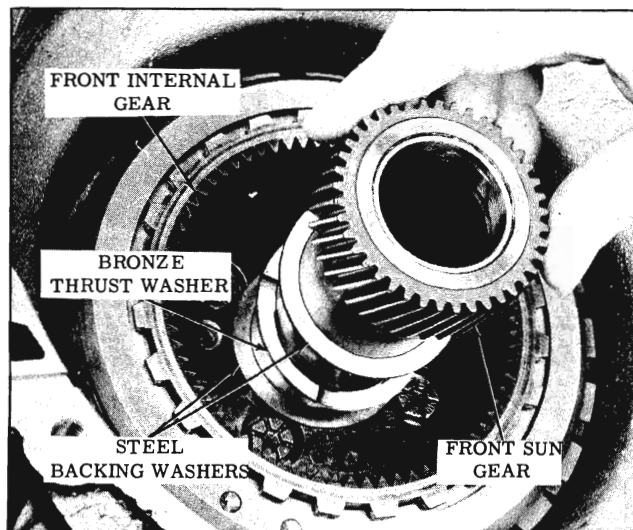

Fig. 3-249 Removing Sun Gear and Washers
51. Remove the front sun gear and front internal gear backing washers and bronze thrust washer. (Fig. 3-249)